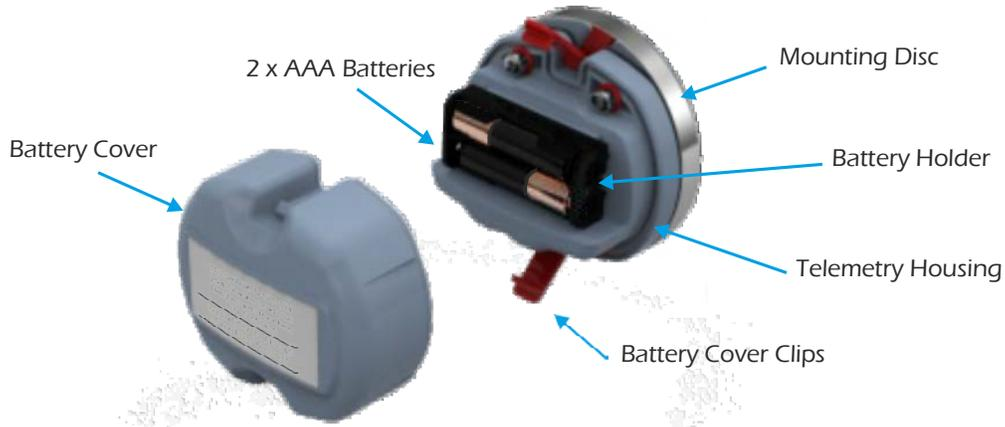

Figure 1
- If the tension link is fitted with a telemetry module, check that the 2 AAA batteries are correctly installed, that the two RED clips on the telemetry housing are closed and that the battery cover is secure. See Figure 1 for details.